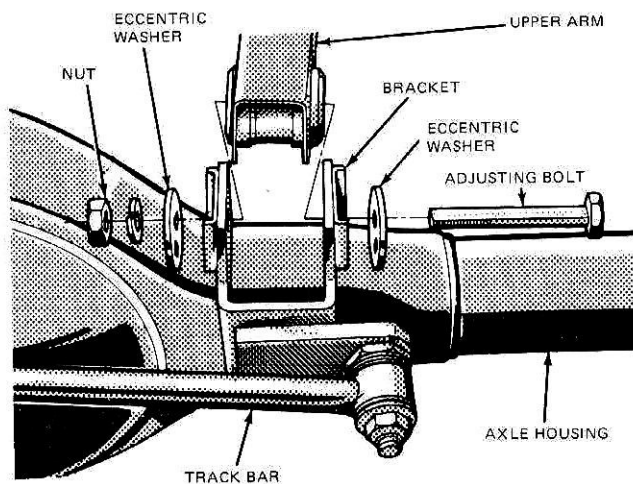

FIG. 6 Pinion Angle Adjustment
The upper arm-to-axle housing bolt and two eccentric washers form an adjusting cam mechanism (Fig. 6) which will tilt the axle housing to the required angle.
8. Now rotate the eccentric bushing clockwise or counterclockwise to raise or lower the pinion nose angle to specification (Fig. 6).